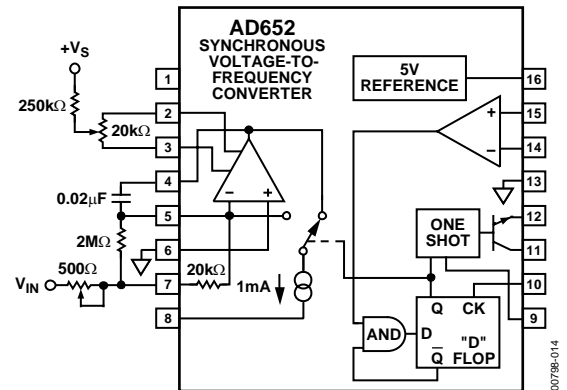
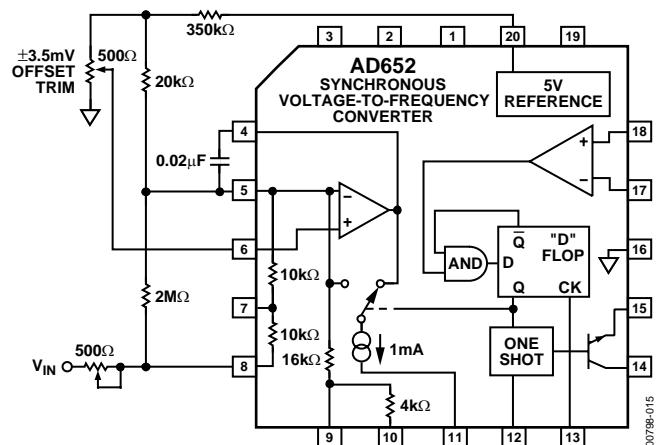

Figure 14. CERDIP Gain and Offset Trim
Figure 15. PLCC Gain and Offset Trim
The gain error of the AD652 is laser trimmed to within  $\pm$ 0.5%. If higher accuracy is required, the internal 20 k $\Omega$  resistor must be shunted with a 2 M $\Omega$  resistor to produce a parallel equivalent that is 1% lower in value than the nominal 20 k $\Omega$ . Full-scale adjustment is then accomplished using a 500  $\Omega$  series trimmer. See Figure 14 and Figure 15. When negative input voltages are used, this 500  $\Omega$  trimmer is tied to ground and Pin 6 is the input pin.
The offset of the op amp may be trimmed to zero with the trim scheme shown in Figure 14 for the CERDIP package and Figure 15 for the PLCC package. One way of trimming the offset is by grounding Pin 7 (8) of the CERDIP (PLCC) device and observing the waveform at Pin 4. If the offset voltage of the op amp is positive, the integrator has saturated and the voltage is at the positive rail. If the offset voltage is negative, there is a small effective input current that causes the AD652 to oscillate; a sawtooth waveform is observed at Pin 4. The potentiometer should be adjusted until the downward slope of this sawtooth becomes very slow, down to a frequency of 1 Hz or less. In an analog-to-digital conversion application, an easier way to trim the offset is to apply a small input voltage, such as 0.01% of the full-scale voltage, and adjust the potentiometer until the correct digital output is reached.